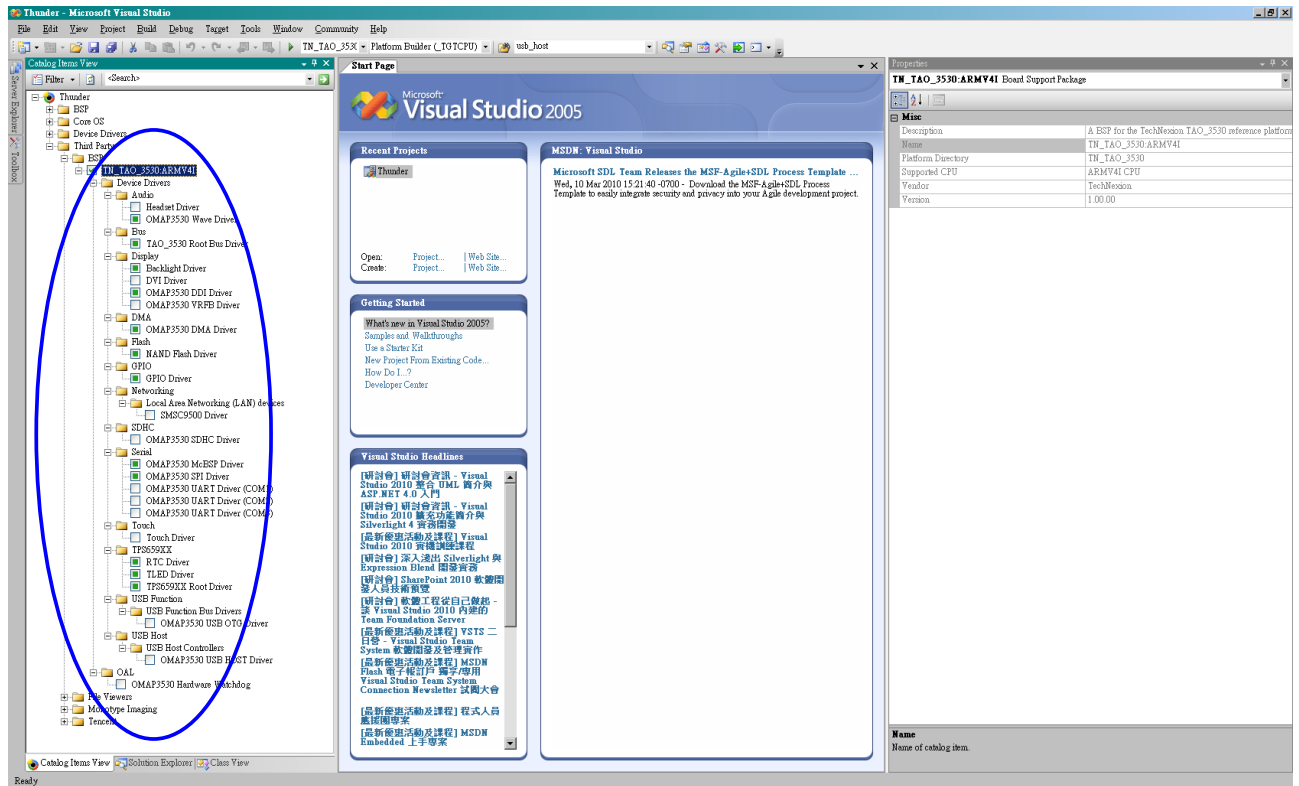
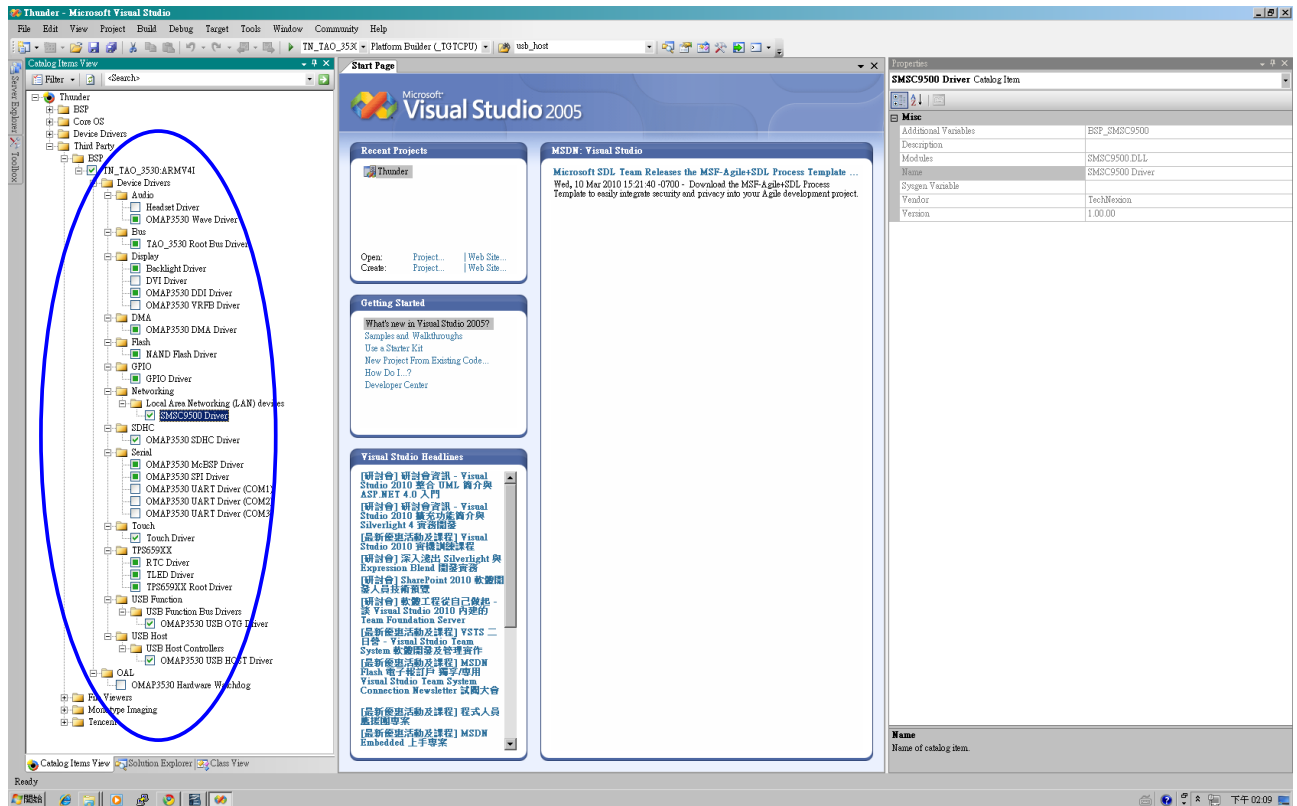

Figure 163
Figure 164
- Chose function for “Thunder” board in the “Catalog Items View”. (See Figure 163 and Figure 164)